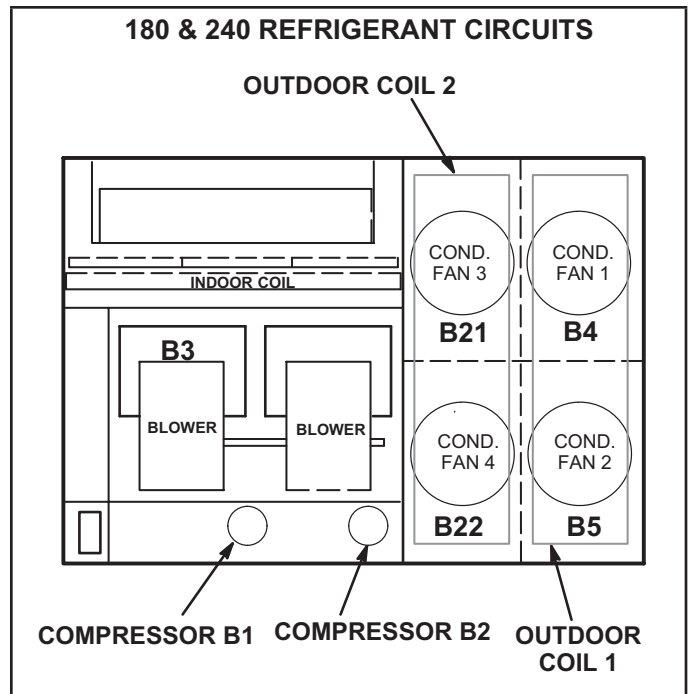

FIGURE 14
Fuse F3 are housed in a fuse block which holds three fuses. Each F3 fuse is connected in series with each leg of electric heat. Figure 14 and table 4 show the fuses used with each electric heat section. For simplicity, the service manual labels the fuses F3 - 1 through F3 - 8.
- 4 - Units contain two refrigerant circuits or systems. See figure 14.